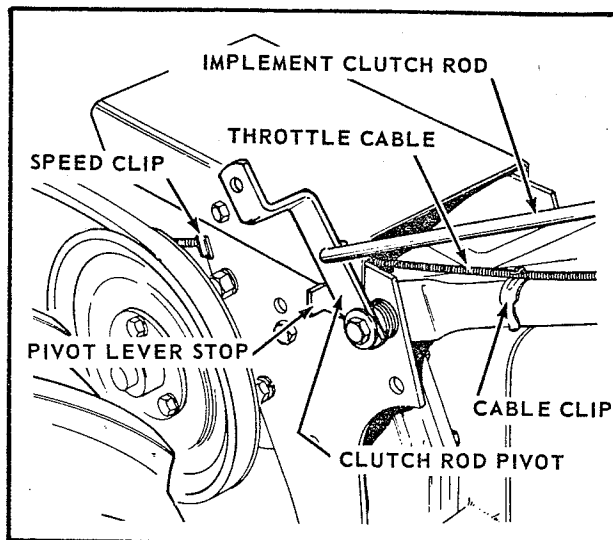
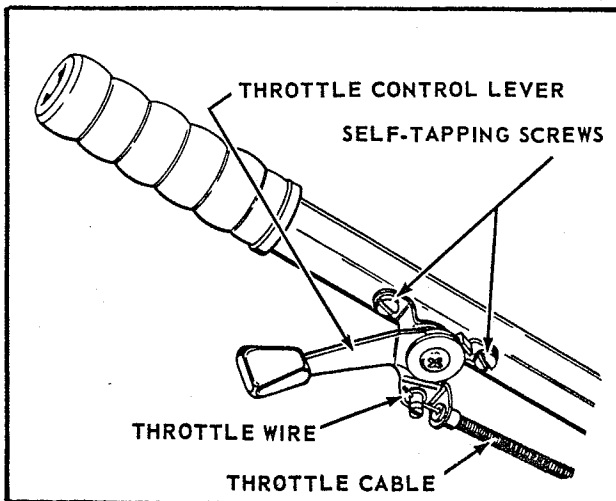

Fig. 2
Fig. 5
2. It will be noted that the tractor handle assembly has 3 rods and levers attached to it. These control the tractor clutch, implement clutch, and transmission shifting. The lever on the left hand side controls the implement clutch rod which is to be attached to the clutch rod pivot lever as shown in figure 2. Remove the handle mounting bolt and install the following parts in this sequence: 5 flat washers, pivot lever stop, bushing, pivot lever, 1 flat washer. Retighten the hex head capscrew and check to see that the end of the clutch rod does not hit on the side of the rear frame cover.
- The speed of the engine is regulated by the throttle control lever. This control lever is already assembled to the throttle cable and for shipment is coiled up and fastened to the engine. Uncoil the throttle cable and pass the control lever under the cover of the rear frame. The cable is to be fastened to the rear frame at this point with a speed clip as shown in figure 2. Continue up the length of the left hand side of the handle assembly and clip the cable in place with cable clips. Fasten the throttle control lever to the left hand handle, using 2 self tapping screws as shown in figure 5. When properly mounted, the throttle will open when the lever is raised, and close when the lever is pushed down. Be certain that the throttle wire is held securely by the locking screw in the throttle lever, and that no kinks or sharp bends exist in the cable mounting.